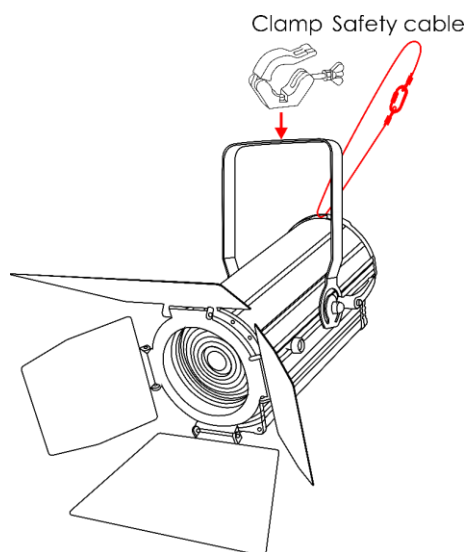

Fig. 09
- 01) Use a clamp to attach the device to the supporting structure, as shown in Fig. 09. Make sure that the device cannot move freely.
- 02) Secure the device with a secondary suspension, for example a safety cable. Make sure that the secondary suspension can hold 10 times the weight of the device. If possible, the secondary suspension should be attached to a supporting structure independent of the primary suspension. Put the safety cable through the **safety eye (07)**, as shown in Fig. 09.